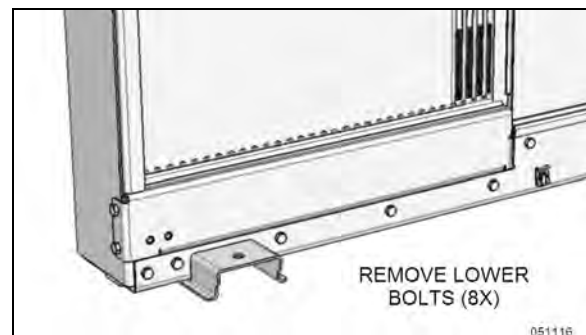

FIGURE 48: LOWER FRAME BOLTS
8. Remove the CAC lower front frame structure by unscrewing the 8 hex bolts holding it (Figure 48).